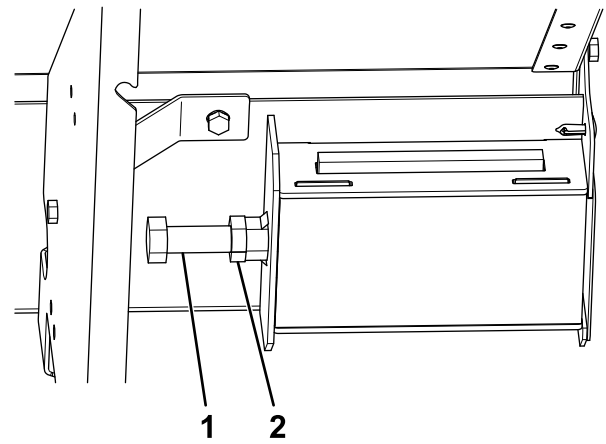

**Figure 28**
3. Check the gap between the pintle chain and the cleanout tray (Figure 28).